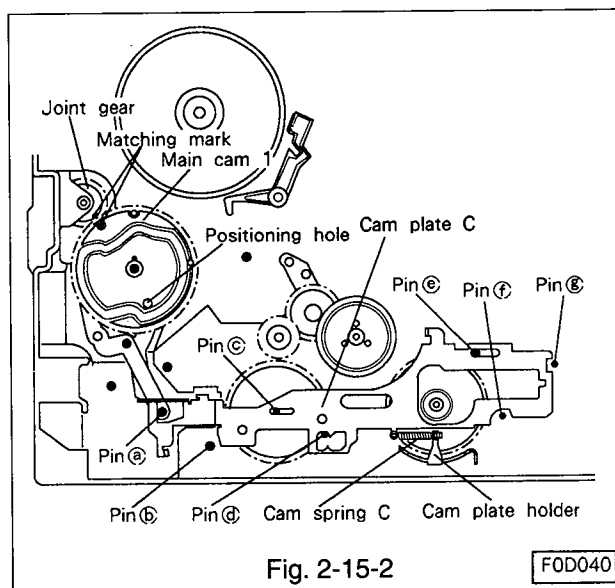

Fig. 2-15-2
- Take care not to move the lever RS and lever C, assemble the main cam 1 to the shaft by lining the matching mark of the joint gear with the positioning hole of main plate. Secure the main cam 1 with the grip ring. (Refer to Fig. 2-15-2.)
- Assemble the thrust washer to the pin (c) shown in Fig. 2-15-2, and install the cam plate C so that the corresponding positions of the plate match the pins (a ~ g).
- Fasten cam spring C to cam plate C and the cam plate holder. (Refer to Fig. 2-15-2.)